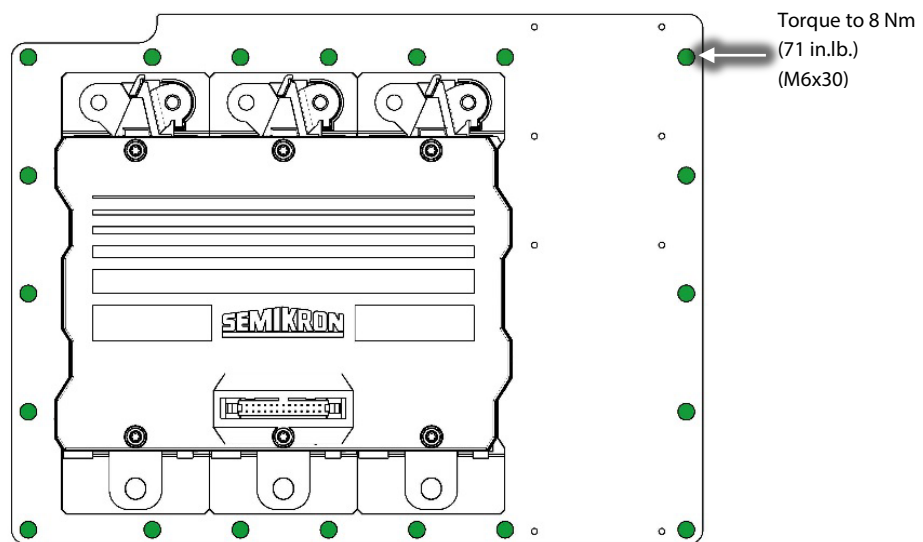

Figure 26 – Inverter Fastener Locations
9. Install the M6x30 Inverter fasteners in a diagonal pattern and torque to 3 Nm (27 in.lb.) on the first pass then to 8 Nm (71 in.lb.) on the second pass. Refer to Figure 26 (Inverter Fastener Locations).